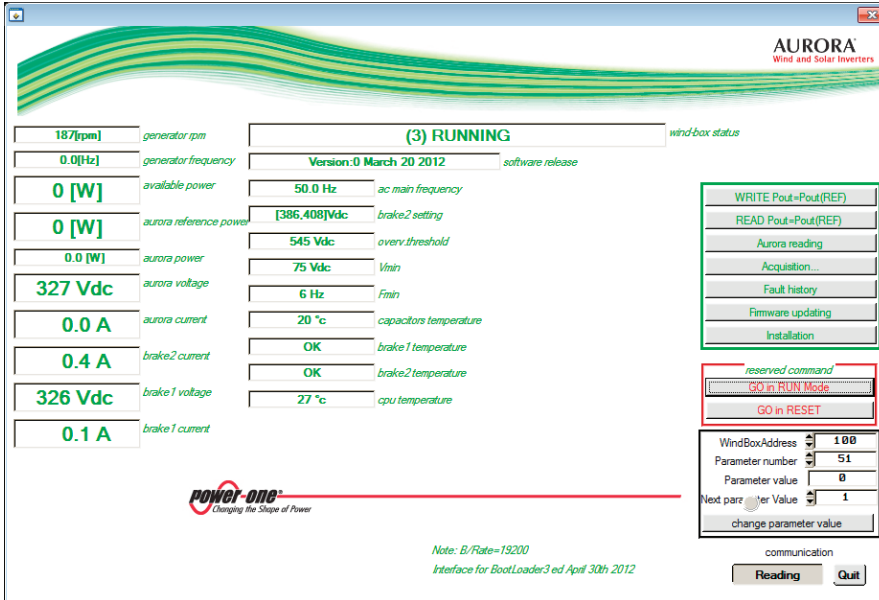
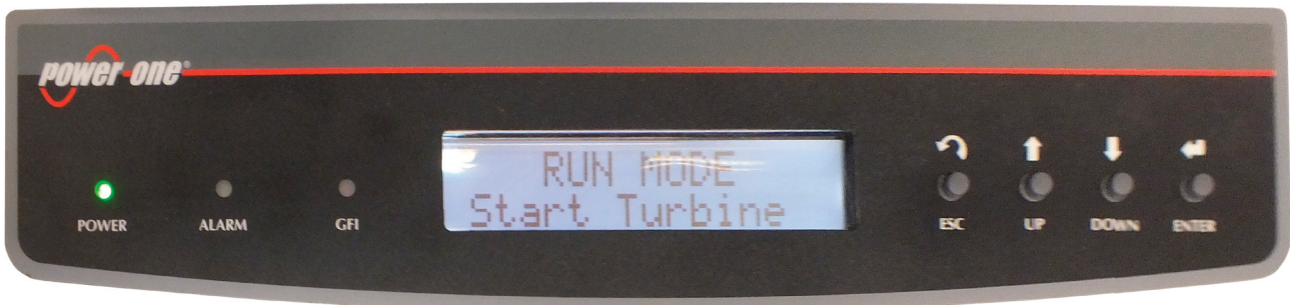

Figure 8
Figure 9
16) Connect the input of the Wind Interface to the grid (230V). The status displayed by the software "Windbox CVI" will change to "(2)SOFT START" and then to "(3) RUNNING" (Fig 8). The inverters will start up (Fig. 9).